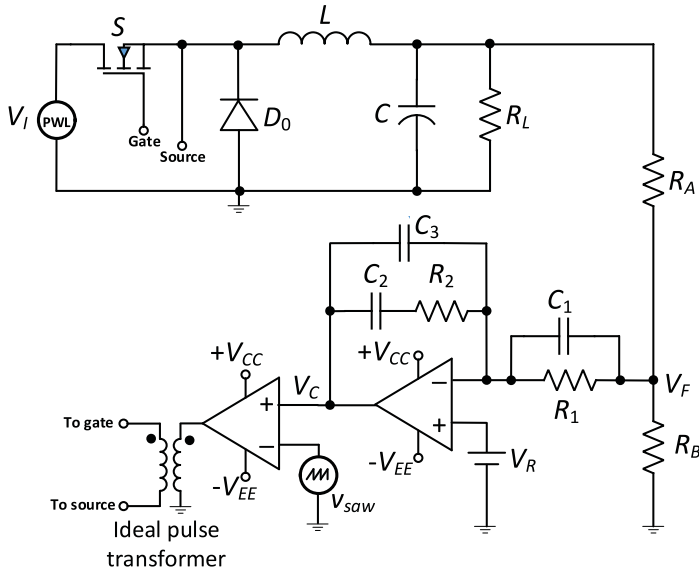

Figure 43.3 Circuit of the closed-loop boost dc–dc converter used to simulate step change in input voltage.
1. Construct circuit shown in Figure 43.3 on the circuit simulator.